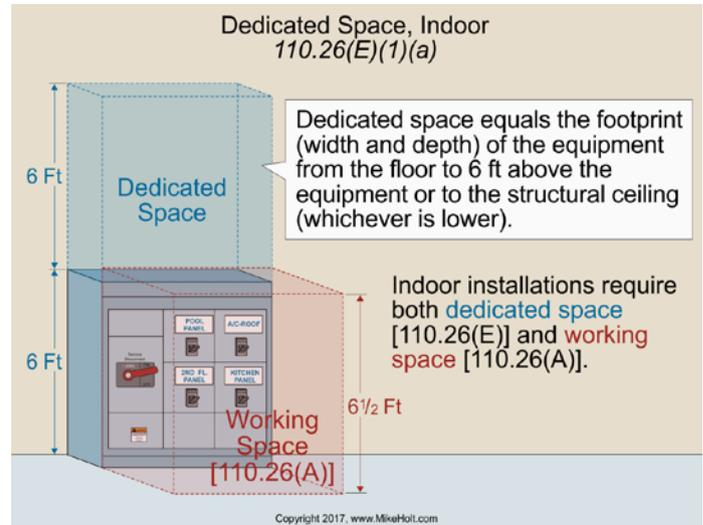

Figure 110-44
**(E) Dedicated Equipment Space.** Switchboards, switchgear, panelboards, and motor control centers must have dedicated equipment space and be protected from damage as follows:
**(1) Indoors.**
**(a) Dedicated Electrical Space.** The footprint space (width and depth of the equipment) extending from the floor to a height of 6 ft above the equipment or to the structural ceiling, whichever is lower, must be dedicated for the electrical installation. *Figure 110-44*